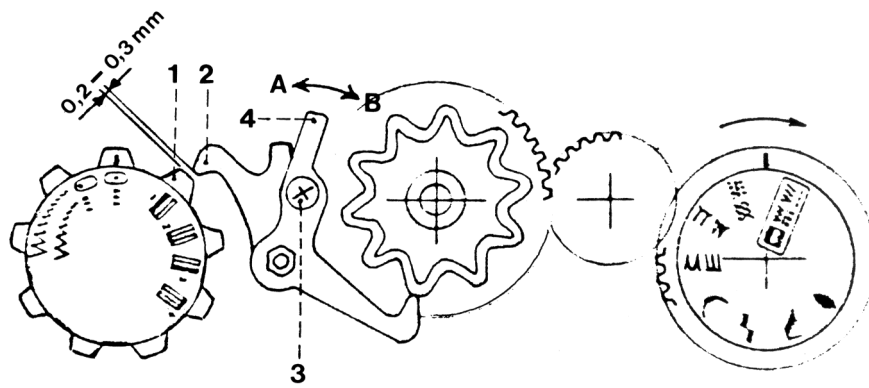

Fig. 1a
- Set control knobs as shown in fig. 1a.